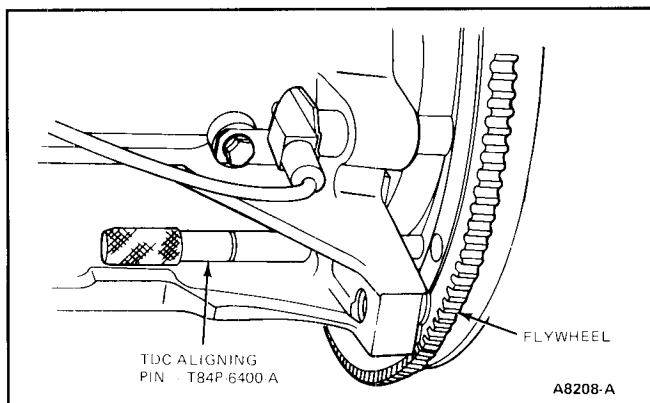

FIG. 18 TDC Aligning Pin
7. Rotate engine until No. 1 cylinder is at TDC of compression stroke. Install TDC Aligning Pin, T84P-6400-A, or equivalent (Fig. 18).
6. Remove TDC Aligning Pin Tool T84P-6400-A or equivalent, (Fig. 18).
17. Rotate crankshaft until No. 1 cylinder is at TDC of compression stroke (intake and exhaust valves on base circle). Install TDC Aligning Pin, T84P-6400-A or equivalent (Fig. 18).